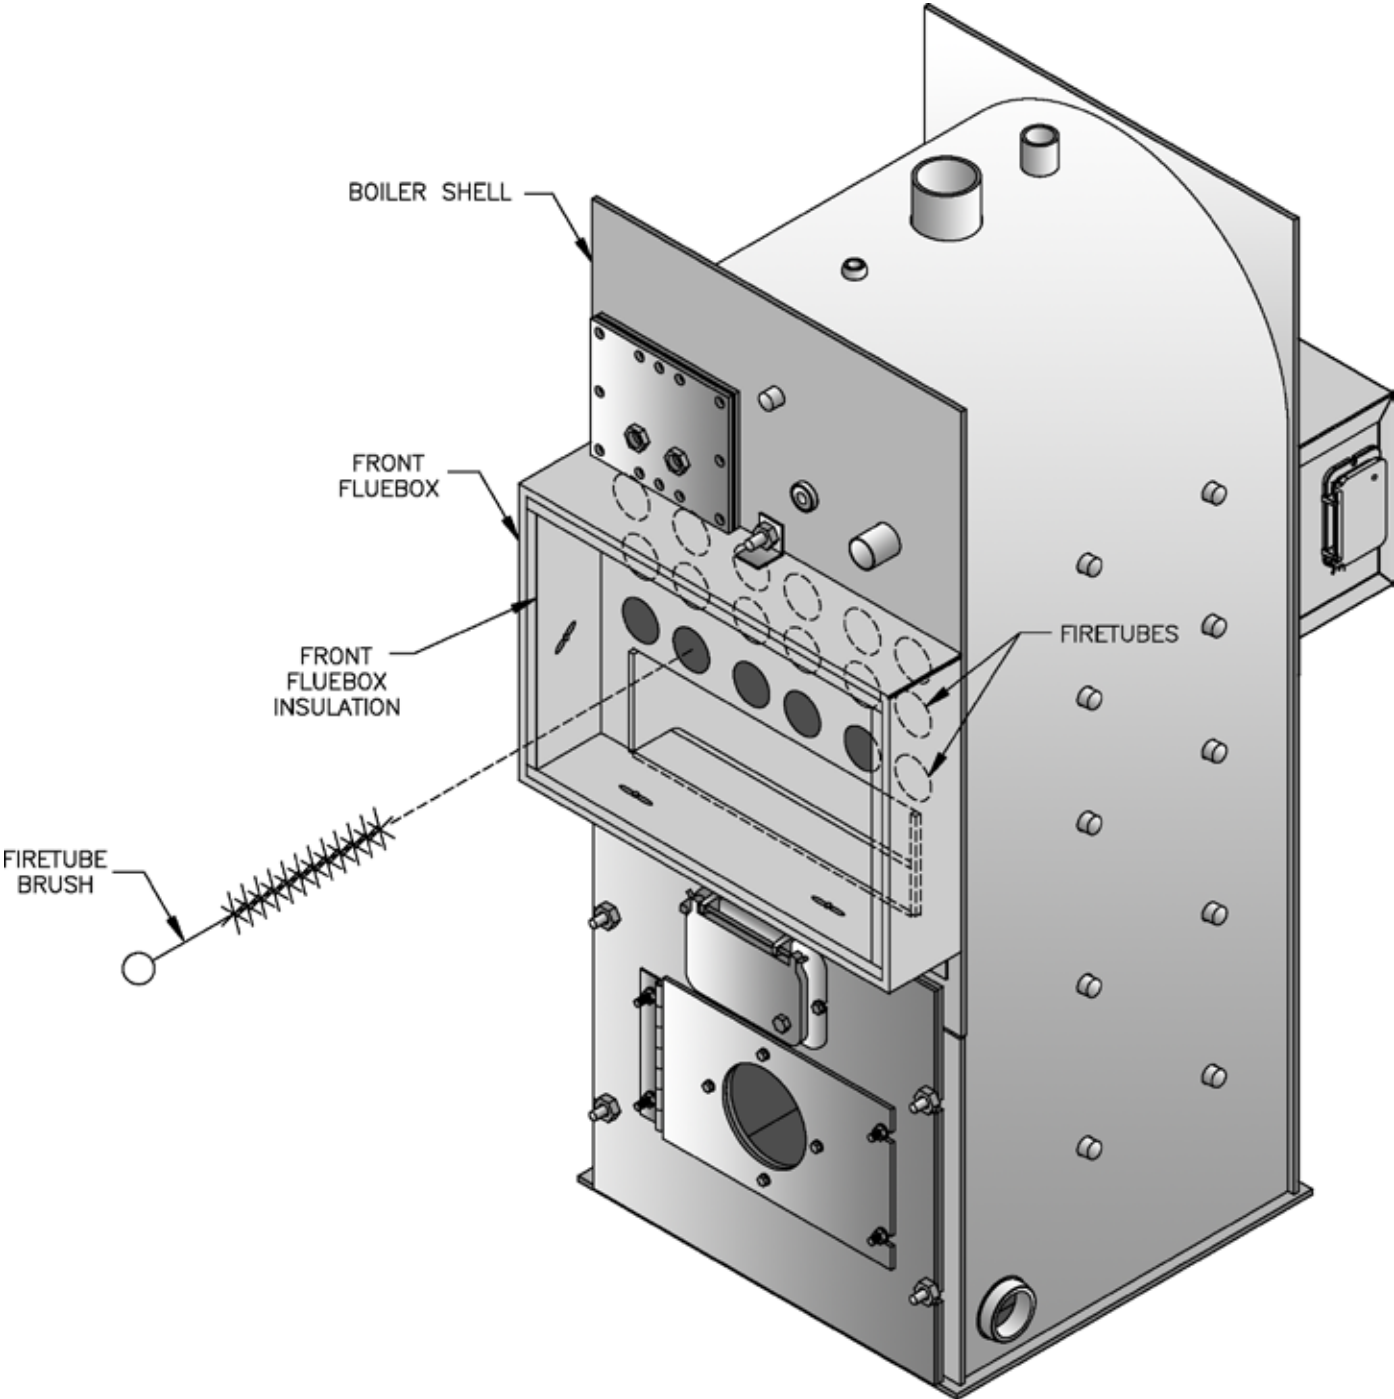

Figure 22: Cleaning of FR Boiler
B. FIRETUBES AND COMBUSTION CHAMBER (See Figure 22)
- b. To gain access to the firetubes, remove the front flue box door. For boilers equipped with flue box swingdoor, remove two (2) nuts at top of flue box door and swing door down. For boilers